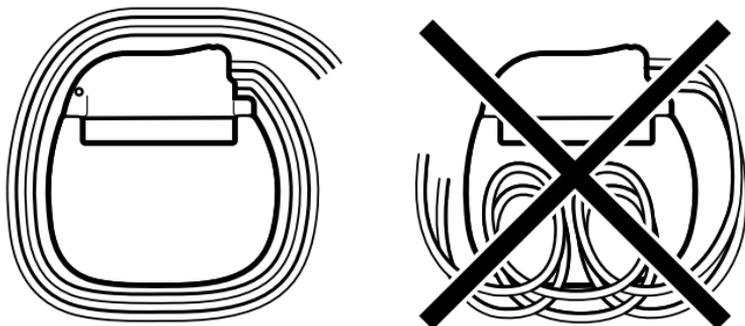

Figure 4. Wrap excess extensions or leads around the perimeter (or behind) the neurostimulator.
- Do not coil excess extensions or leads in front of the neurostimulator. Wrap excess extensions or leads around the perimeter (Figure 4) or behind the neurostimulator to help minimize potential damage during neurostimulator replacement surgery, help minimize potential kinking of the extension or lead, and minimize interference with telemetry and recharge operation.